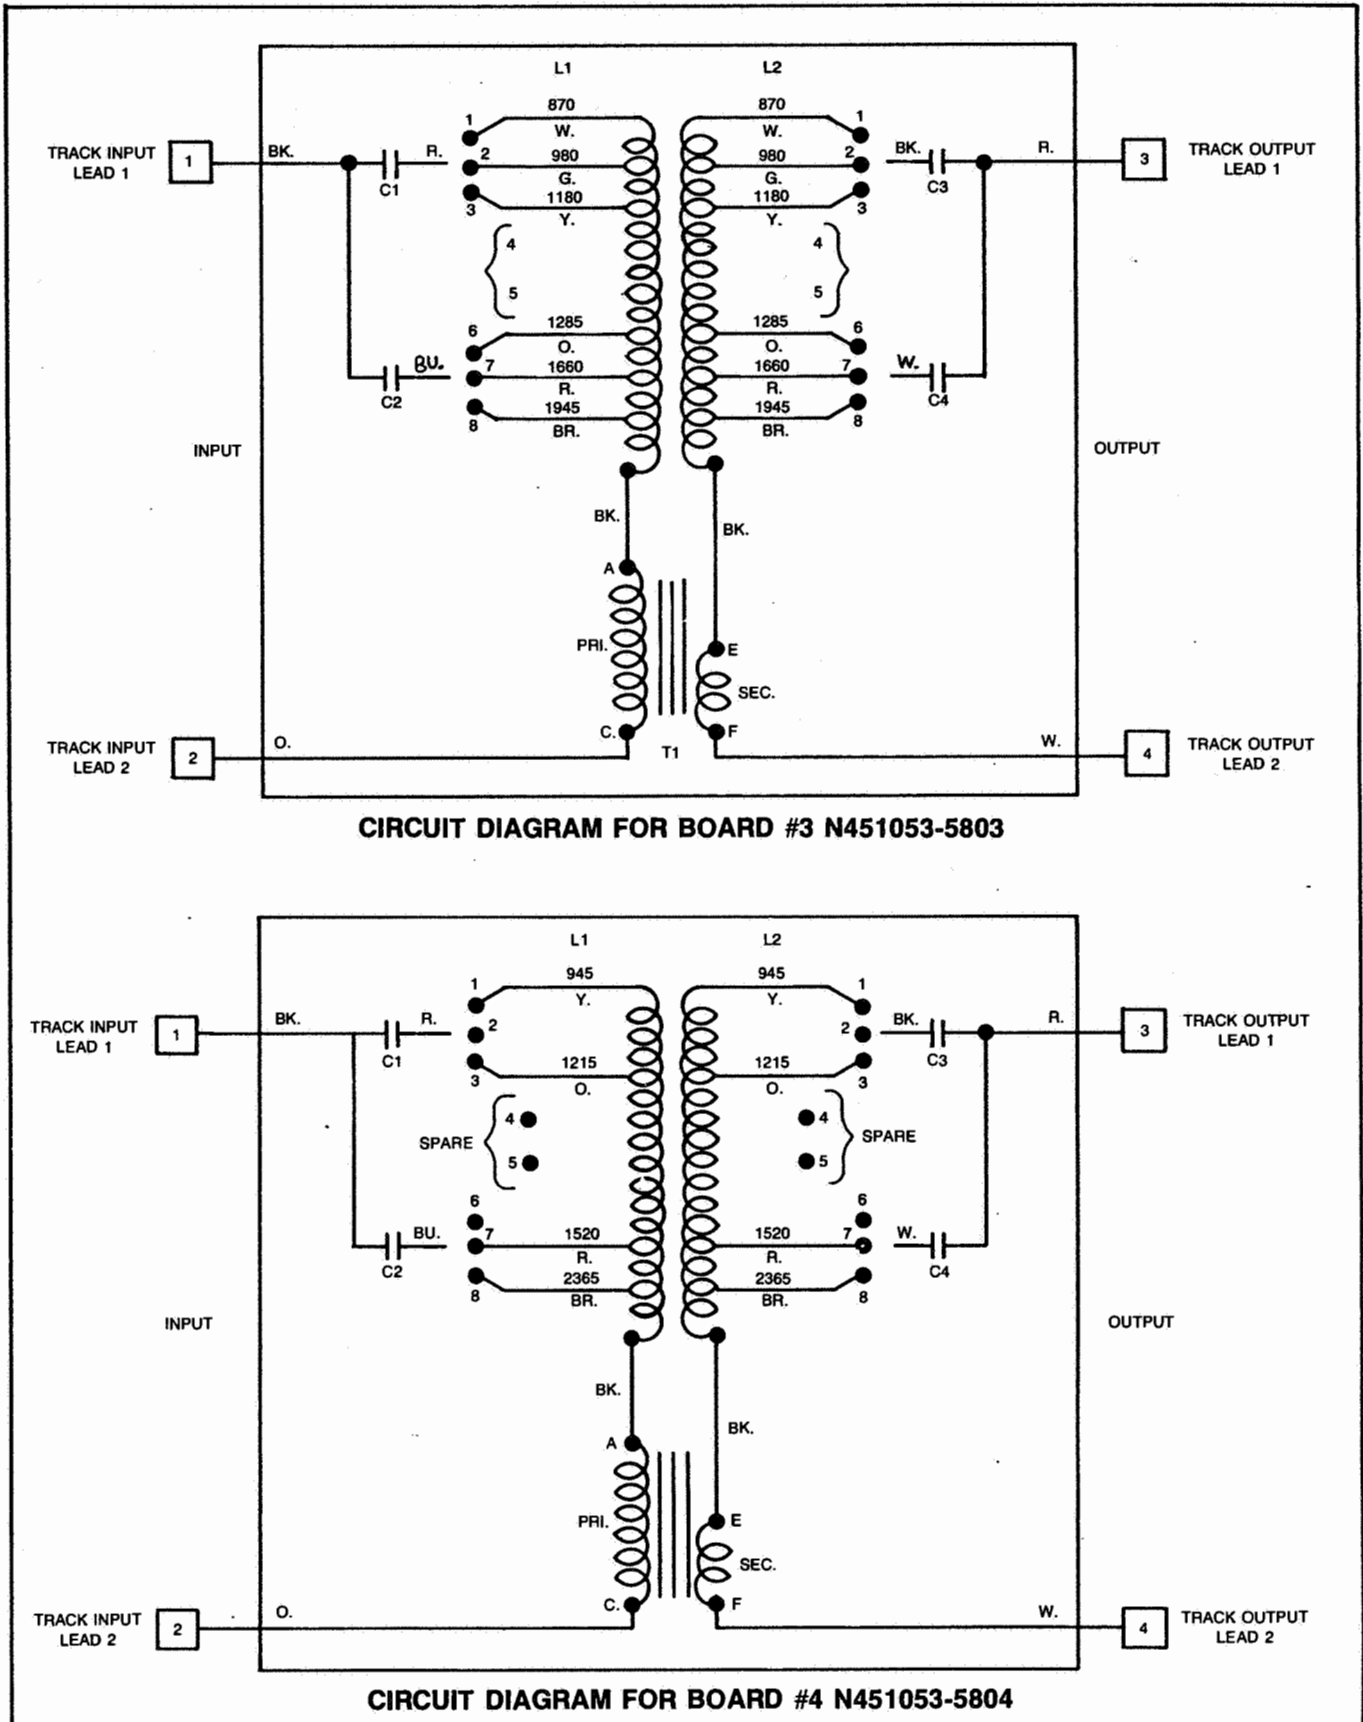

Figure 3-2. Track Coupling Unit Internal Wiring Connections
1. Remove the unit from the sheet metal cover and locate the four wires on terminal strips (within the cover). The connections of these wires are used to set up desired frequency. See Table 3-1 and Figures 3-2 and 3-3.